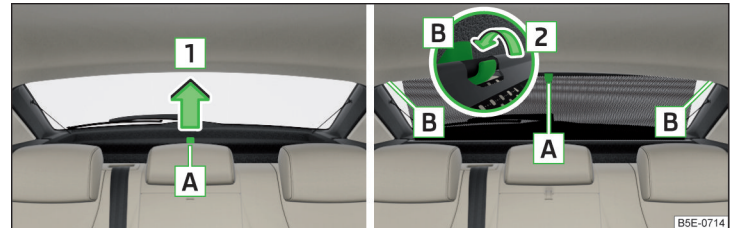

Fig. 76 **Sun screen**
- To **roll down**, pull the sunshade by the handle **A** in direction of arrow **1** and suspend in the magnetic holder **B** in the direction of arrow **2** » Fig. 76.